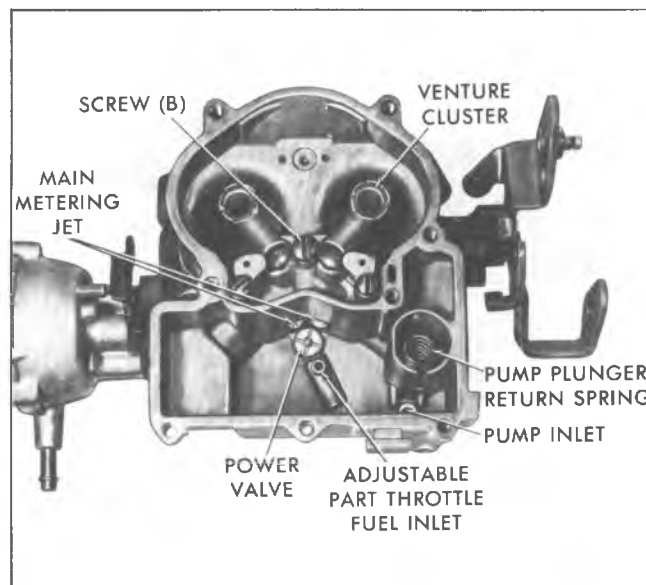

Fig. 5C-Float Bowl
1. Remove pump plunger return spring from inside pump well. Then remove aluminum check ball from bottom of pump well by inverting bowl (Fig. 5C).
1. Install two main metering jets into bottom of float bowl (Fig. 5C).